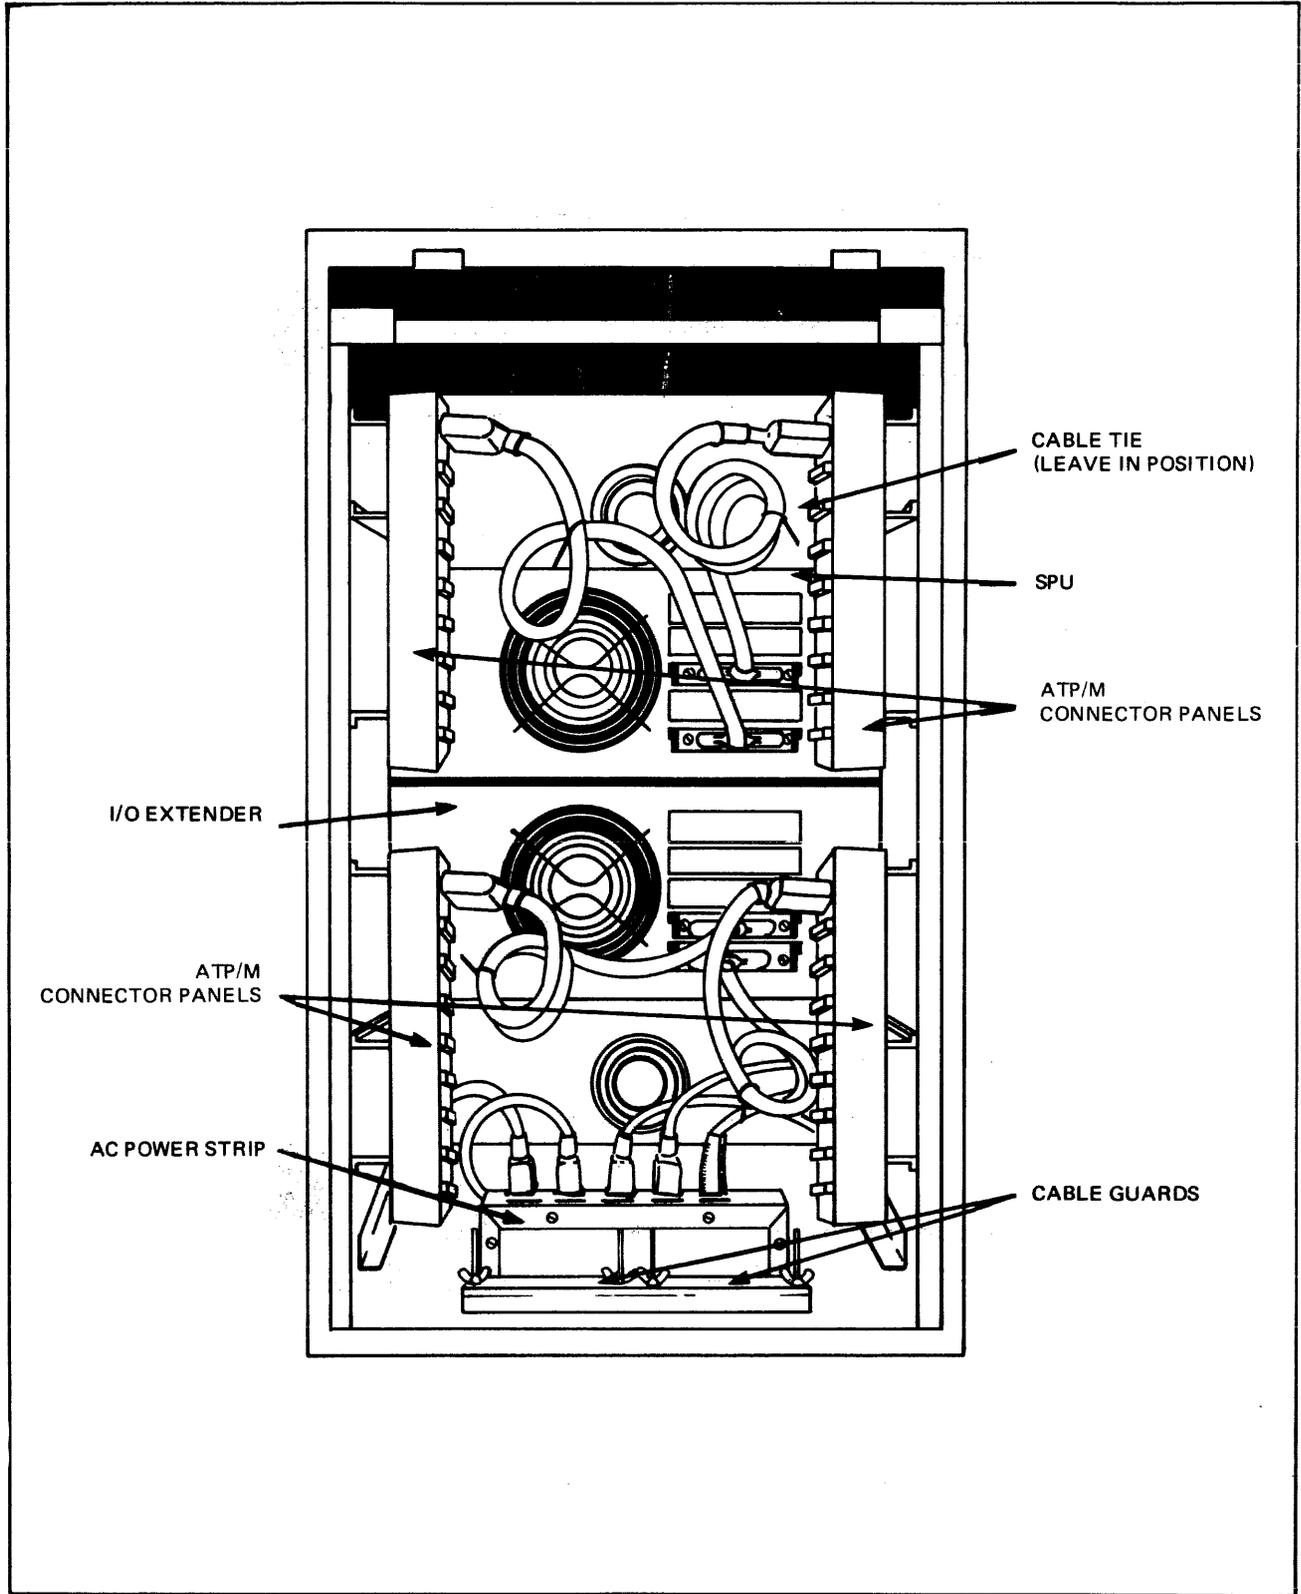
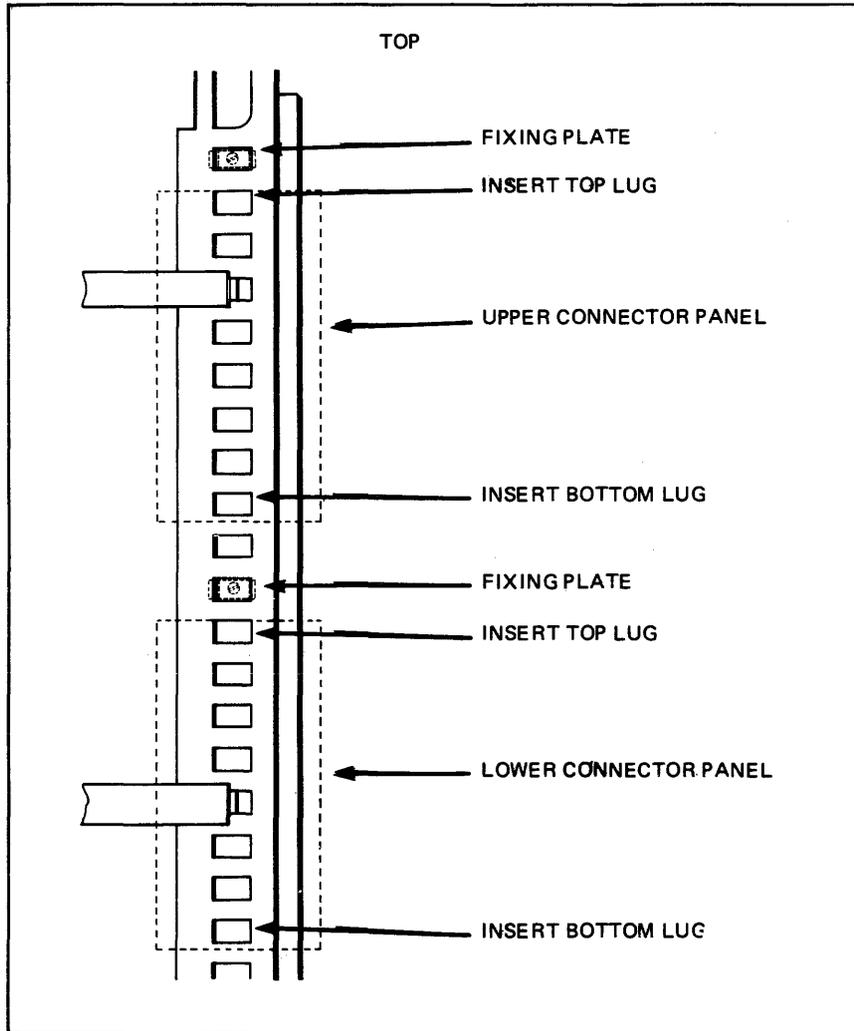

Figure 2-8 MICRO 3000XE Cabinet With Four ATP/M Connector Panels
Figure 2-9 ATP/M Connector Panel Positioning
- a) Refer to Figures 2-8 and 2-9. Figure 2-9 shows the mounting positions of two ATP/M Connector Panels on the vertical strut inside the rear of the cabinet (right side). The vertical placement of the connector panels is identical on both sides of the cabinet. It is recommended that the connector panels associated with the SPU are mounted above those of the I/O Extender.
- c) Insert the top lug of the connector panel mounting plate in the vertical strut at the correct position with reference to Figure 2-9. Then insert the bottom lug and push the connector panel down to locate it.
- Refer to Figures 2-8 and 2-12. The locking screws on the 50-pin connectors are held in place by retaining circlips which can be left in position. It is not necessary to remove the cable tie from the cable to install it in the cabinet.
- a) Refer to Figure 2-8. Remove the two wing-nuts and the top plate from the cable guard on the same side as the connector panel.